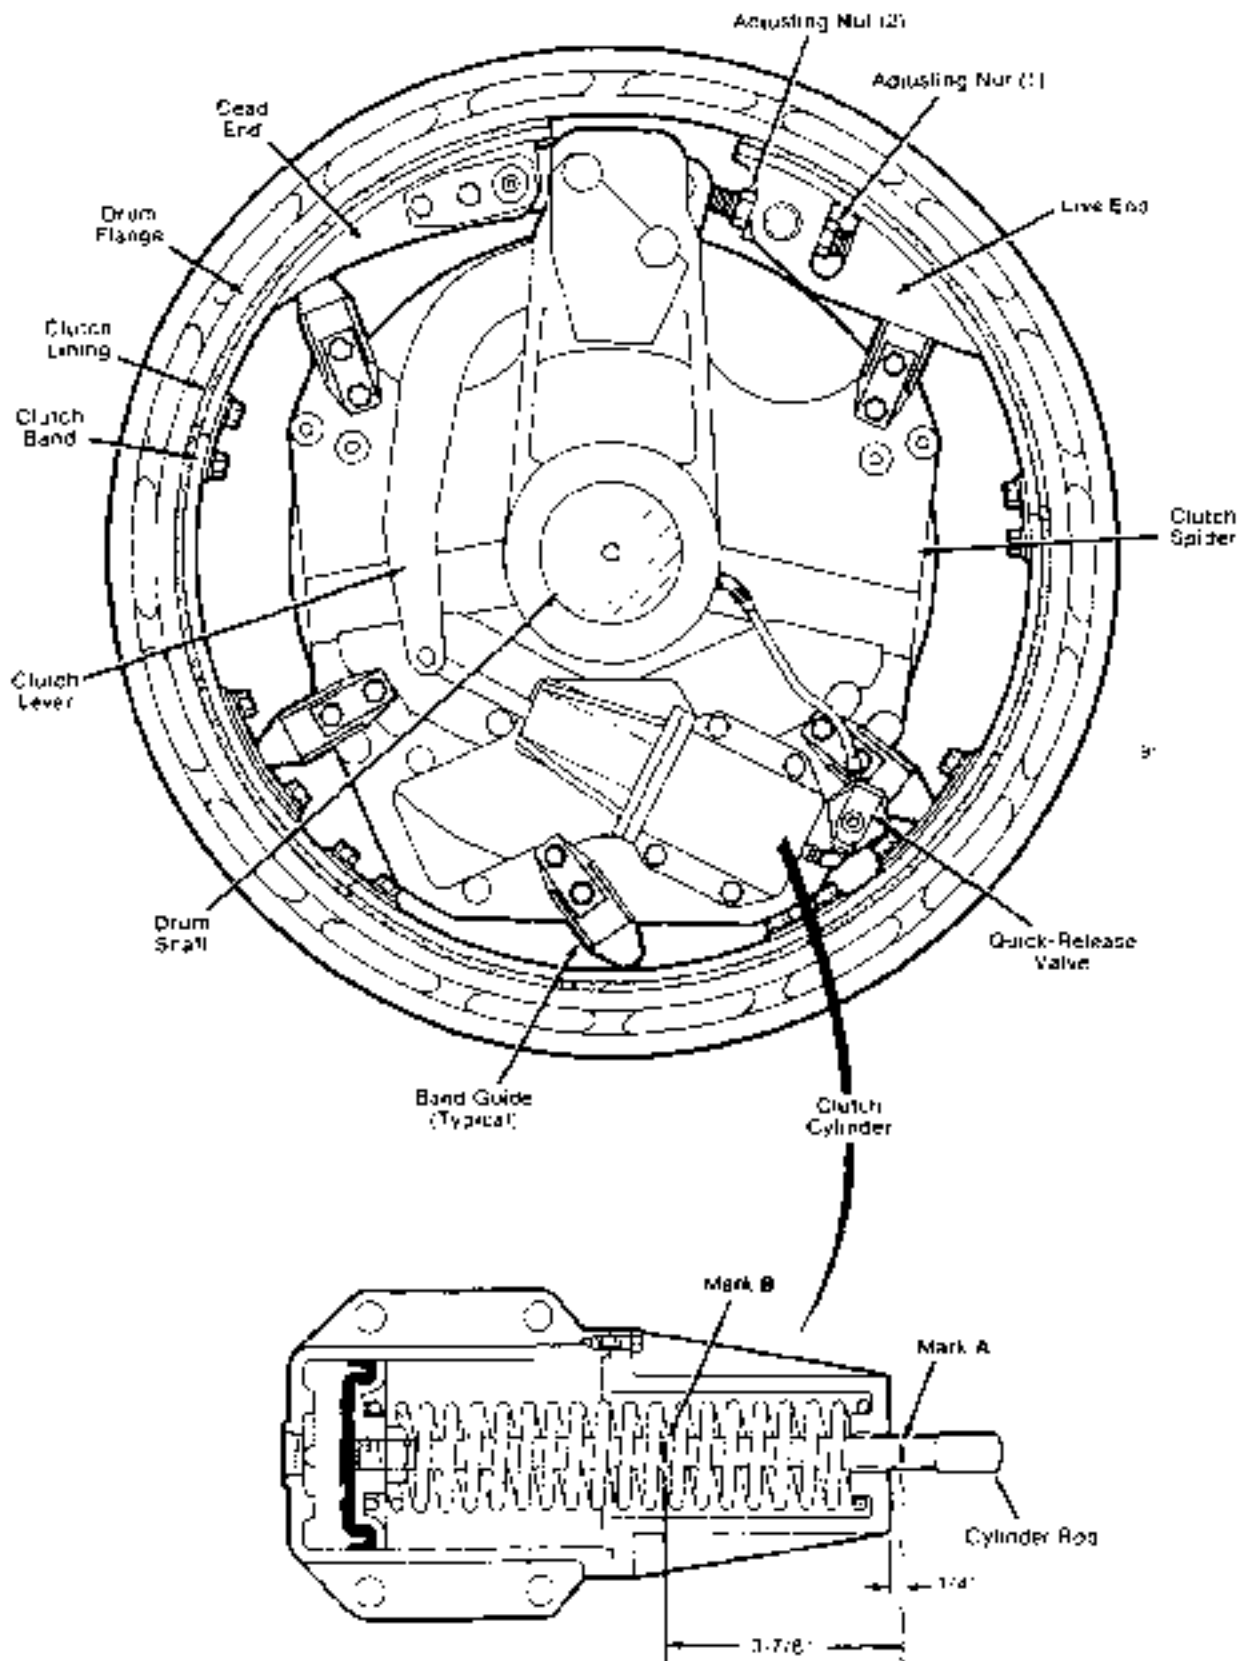

Figure 3 Drum Clutch Assembly
4. RELEASE the clutch and check that Mark A, Figure 3 is 1/4 inch or more (not less) from the end of the cylinder. If not, adjust the band guides for proper "drum-to-lining clearance" (approximately 1/32 inch).
5. FULLY APPLY the clutch and check that Mark B, Figure 3 is flush with the end of the cylinder. If not, adjust the clutch for "lining wear." Mark B will move away from the cylinder as the lining wears.
2. FULLY APPLY clutch. If Mark B, Figure 3 is not flush with the end of the cylinder, proceed as follows:
- b) Loosen adjusting nut (1, Figure 3) several turns.
- c) Tighten adjusting nut (2, Figure 3) one to two flats to move Mark B toward the cylinder.
- f) Tighten adjusting nut (1) against the spacer to hold the adjustment.
6. **RELEASE** clutch. Mark A, Figure 3 should be 1/4 inch or more from the end of the cylinder. This dimension will vary depending on the amount of clearance between the lining and the drum flange, but the dimension **must not be less than 1/4 inch.**
IMPORTANT Cylinder piston can bottom out, resulting in packing cup damage and improper operation of clutch if Mark A, Figure 3 is less than 1/4 inch from end of cylinder